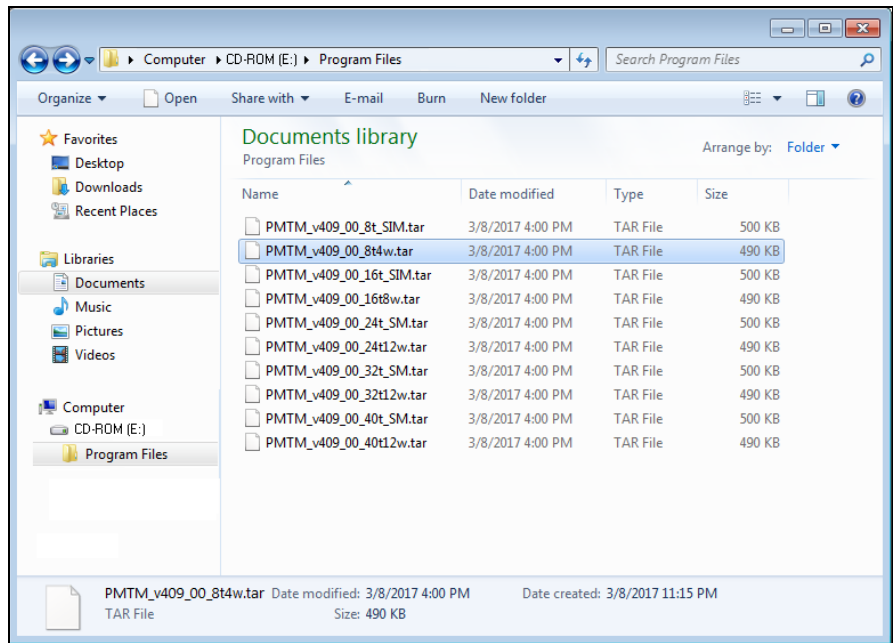

Figure 2-6. Select User Program File
6. Select the path and user program file to download from the CD-ROM. (Program files are typically located in the Program Files folder on the CD-ROM). As Figure 2-6 shows, the screen lists all valid user program files with the **.bin** (for FB107) or **.tar** (for ROC800) extension: